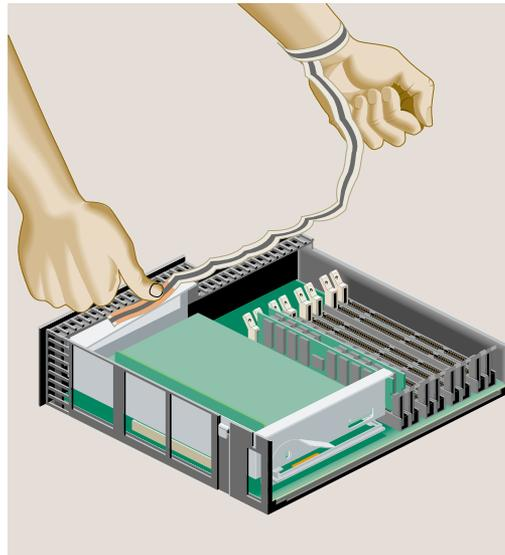

Figure 2-6 Attaching the Wrist Strap
- Attach the copper foil to the PCI tray. Attach the wrist strap to your wrist and to the PCI tray (Figure 2-6).